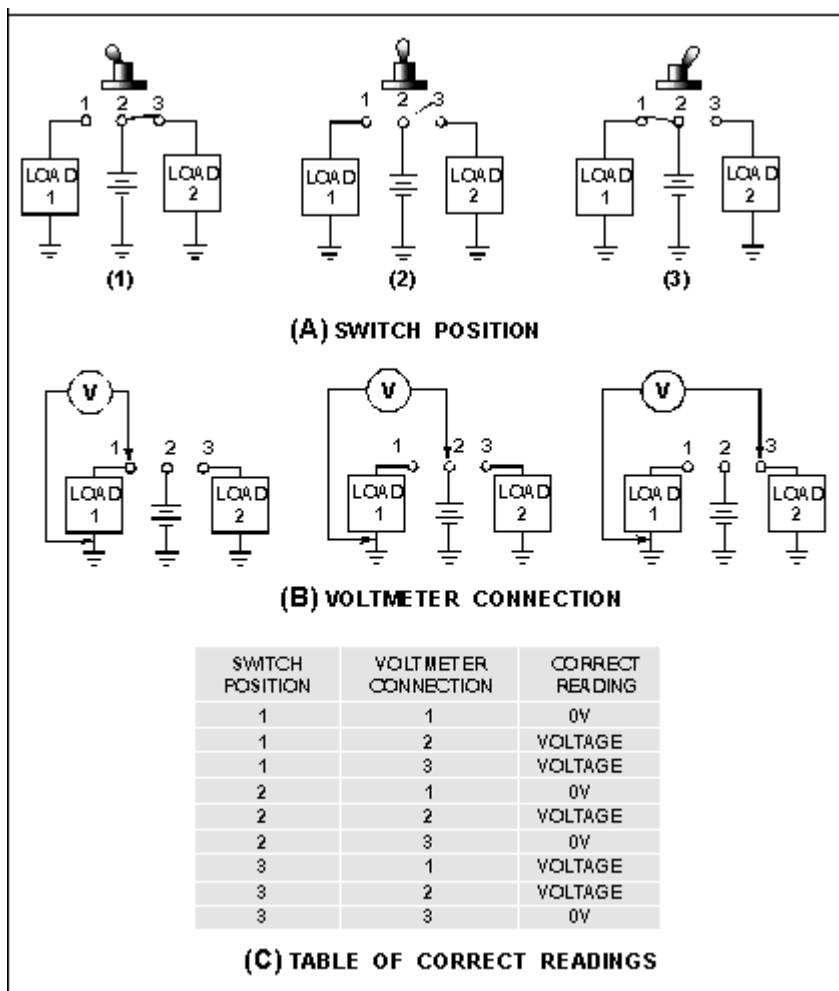

Figure 17: Checking a switch with a voltmeter.
Figure 17(A) shows a switch connected between a power source (battery) and two loads. In Figure 17(B), a voltmeter is shown connected between ground and each of the three switch terminals while the switch is in position 1. Figure 17(C) is a table showing the switch position, voltmeter connection, and the correct voltmeter reading. The table in Figure 17(C) will show you the correct readings for each switch position.